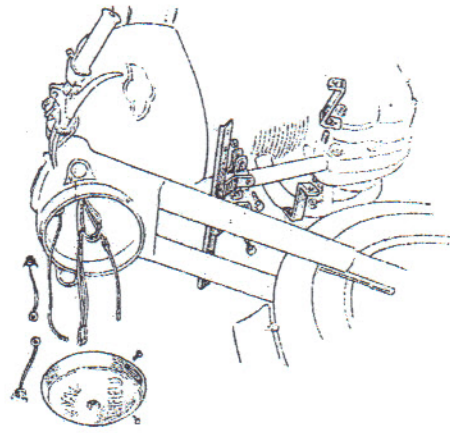

Fig 1. Fairing bracket arrangement and modified wiring
**2. Preparation of the Machine for Fairing** (see fig.1) - Remove the headlamp by means of the slotted screw on top of the rim and disconnect the headlamp wires at the snap – in connectors. The plastic sheath covering the headlamp cables within the casquette should now be cut back 6 inches or so to ensure that they will reach the headlamp in its new position in the fairing. Where fitted, remove the side lamps by the single slotted screw and disconnect the wires at the snap – connector.
**3. Fitting Fairing to Motor Cycle** (see Figs. 1 and 2) - Remove the two stud nuts from the top engine mounting stud at the front of the engine and loosely fit the two small angle brackets, the bracket with the right – angle bends on the right hand side, and the z shaped one on the left. Now loosely bolt up the top single bracket with the bracket forward of its clamps and the frame down tube. This bracket should be positioned as high as possible with the cross bar almost touching the steering stop.
Fairing Bracket arrangement, and modified wiring. Fig. 1.